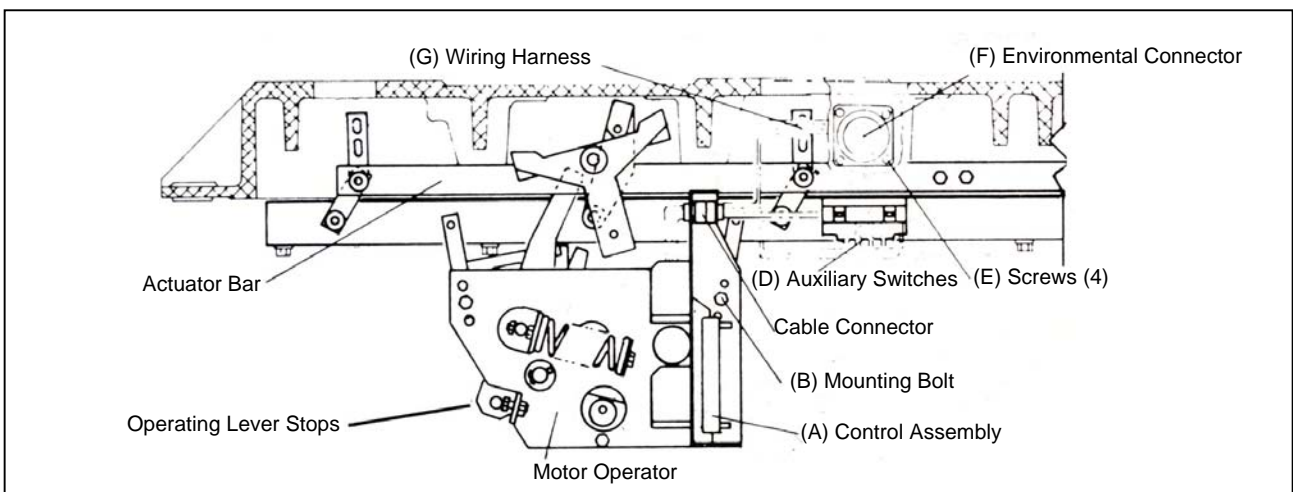
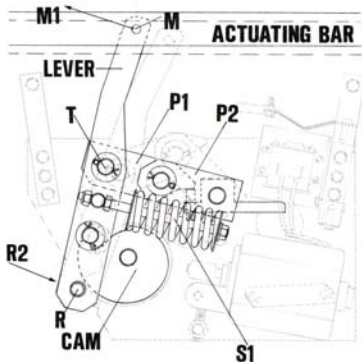

Figure 11: VBM Motor Operator Diagram
Figure 14: Sequence of Motor Operation
- a. Control assembly (Figure 11):
- b. Replace by disconnecting cable connector (C) and remove leads from terminals of auxiliary switch(es) (D). Remove four screws (E) which hold the environmental connector (F) and pull wiring harness (G) out of the housing. To install wiring harness (G), clean surfaces of casting where connector mounts. Apply a small amount of silicone grease to gasket of new connector. Install new harness (G) and rewire.
- c. Auxiliary switch(es) (D) (Figure 11):
- a. Remove entire controls assembly (A) by removing the mounting bolt (B) and disconnecting cable connector (C), and install new control assembly.
- b. Remove two cotter pins (not shown) holding pin (M). Remove pin (M).
- c. Remove Sel-Lock pins in holds (L) and (N) by driving them with an appropriate rod.
- g. Adjust main operating lever assembly stops of motor operator assembly (Figure 11). With VBM fault interrupter in the closed position, the pin “R” (Figure 14) should turn freely. There should be no contact between the pin “R” and the stops. A separation of 0.015” ± 0.005” between the pin “R” and the bolt heads should be achieved by adjusting the bolts. The separation should be equal on both sides so that symmetrical forces are imparted to the motor operator assembly as the VBM fault interrupter is opened.